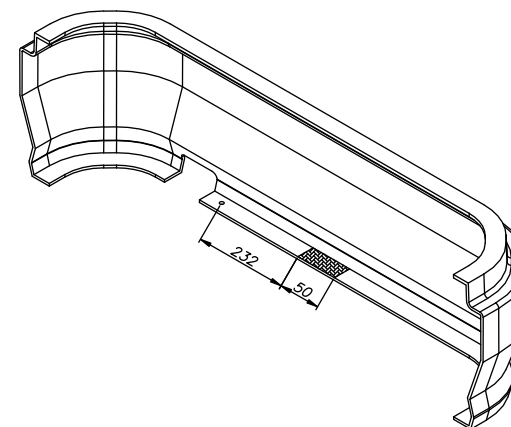

Fig. 2
2. Put main bar of the towbar to the chassis member in this way, so holes of the towbar (pos. A) agree with holes in members and fix using bolts M10x35mm (pos. 5).
3. Reassemble the bumper after cut out its fragment according to fig. 2.
5. Fix tow-ball (pos. 2) with socket plate (pos. 3) using bolts M12x75mm (pos. 4) from accessories.